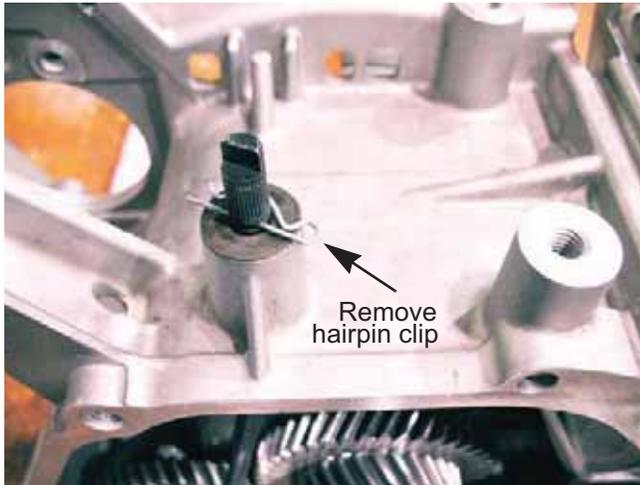

Figure 4.43
5. Remove the hairpin clip from the governor shaft. See Figure 4.43.